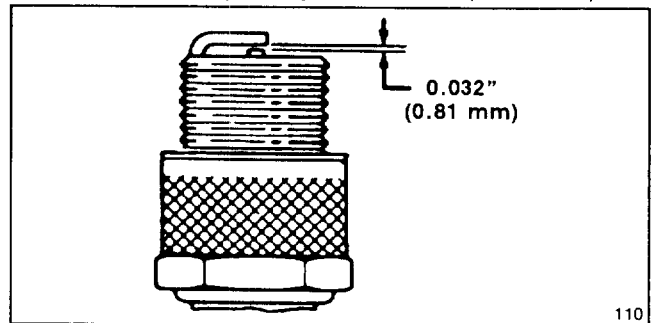

Figure 11
3. Set air gap at 0.032" (0.81 mm) (Fig. 11). Install correctly gapped spark plug and gasket seal. Tighten plug firmly to 15 ft-lb (20.4 N-m).